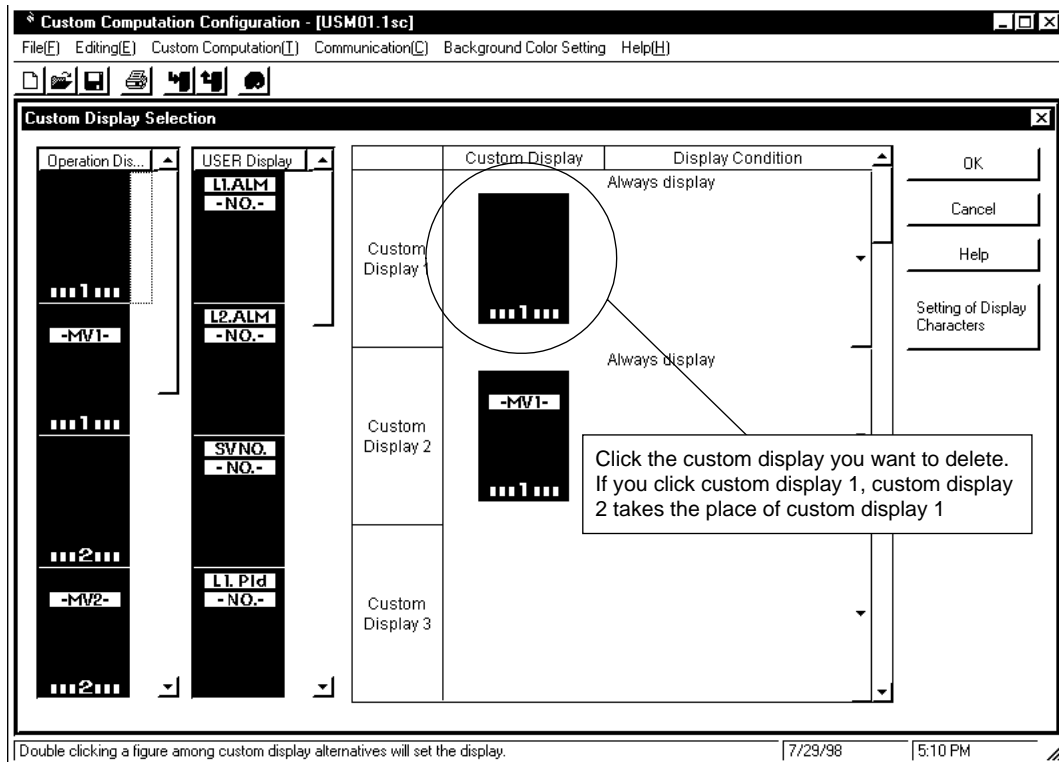

Figure 6.2.1 [Custom Display Selection] Dialog Box
- ① In the [Custom Display Selection] dialog box (Figure 6.2.1), click the custom display you want to delete.